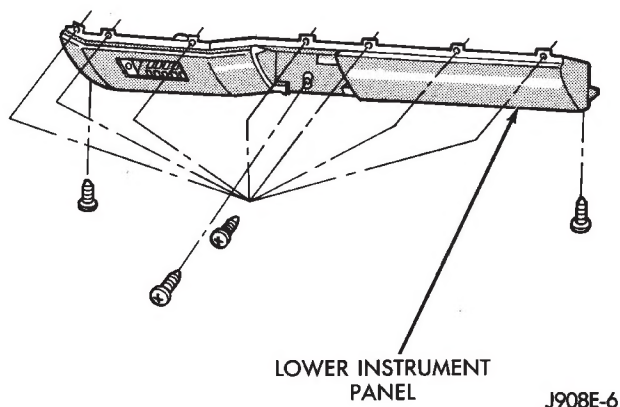

Fig. 1 Lower Instrument Panel/Knee Blocker—XJ Vehicles
- (1) Disconnect battery negative cable.
- (2) Remove lower instrument panel screws along bottom edge of steering column (Fig. 1).